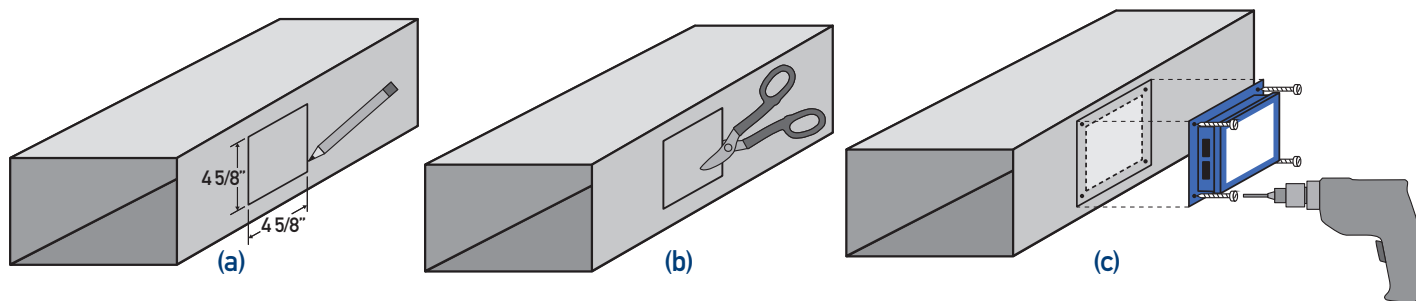

FIGURE 1 – Mounting on duct
2) To mount the model 7100, 7200, 7300 or 7400 in a duct: (See figure 1)